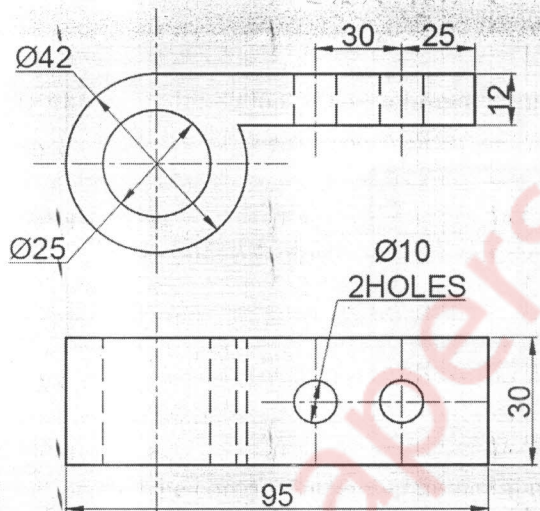

Figure 1
1. (a) Write the sequence of operations for the component shown in the Figure 1. [5]